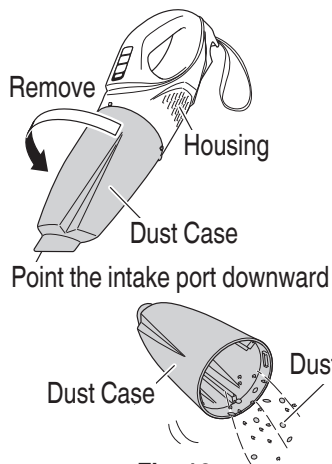

Fig. 18
1. Turn the dust case and pull it from the housing. (Fig. 18)